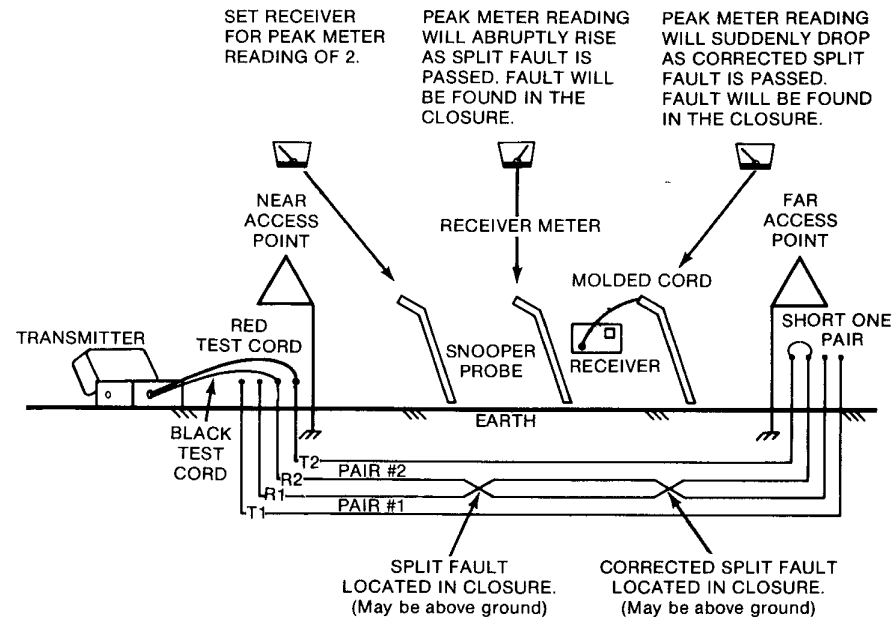

Figure 3-8.
1. Disconnect and isolate the cable sheath and one of the two wire pairs (associated with the split and corrected split faults) at the far access point. Short together the isolated wire pair (see Figure 3-8).
2. Disconnect and isolate the cable sheath and necessary wires at the near access point (see Figure 3-8).
3. Hook up the red and black test cord clips at the near access point (see Figure 3-8).
4. Plug the jack end of the red/black test cord into the TRACING TONE jack receptacle on the transmitter (see Figure 3-8).